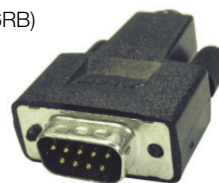

Figure 7. Fieldbus Baseplate Terminator
- ▶ The Fieldbus Baseplate Terminator (P0916RB) is used to terminate either the CP end of the HDLC fieldbus or the last baseplate in the daisy chain when split A/B fieldbus cables are not required. (See Figure 7.)